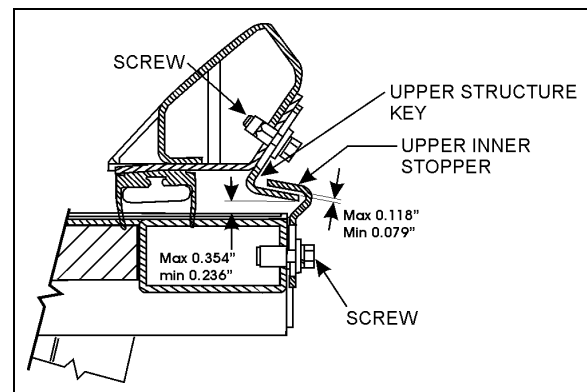

FIGURE 6: UPPER INNER STOPPERS ADJUSTMENT
2. Adjust the upper structure key and the upper inner stoppers according to Figure 6 with the seal deflated. When inflating, the seal presses the roof structure upward and at that moment, the upper inner stopper comes into contact with the upper structure key.